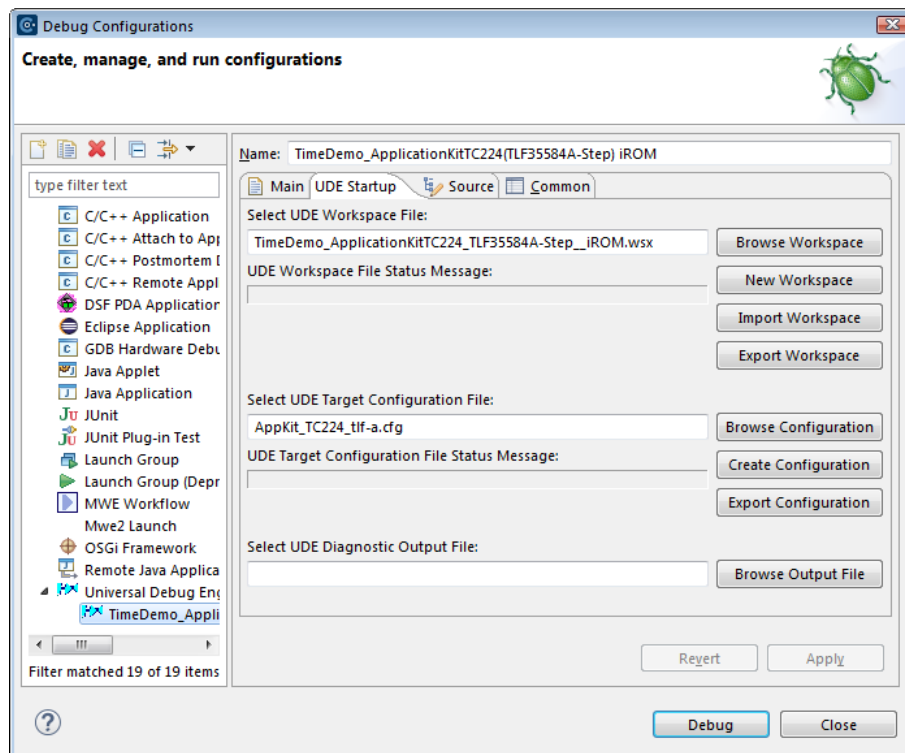

Figure 35 Create new debug launch configuration for Universal Debug Engine
4. A new debug configuration **TimeDemo_ApplicationKitTC224(TLF35584A-Step) iRom** is created. All input fields are pre-filled with appropriate values (Figure 35).